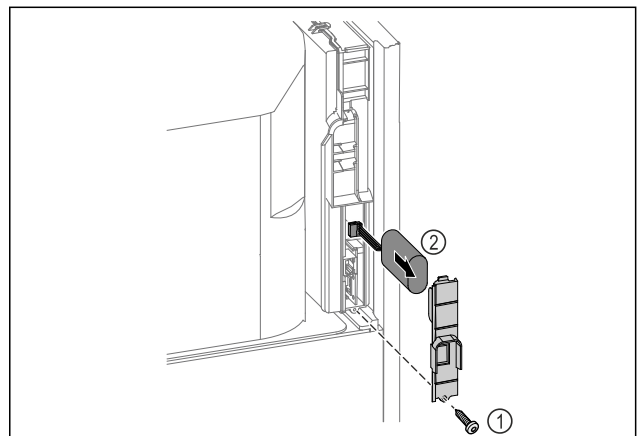

Fig. 254
- ▶ Unscrew screw and remove cover from the back of the appliance Fig. 254 (1).
- ▶ Disconnect the battery and remove it Fig. 254 (2).